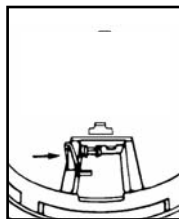
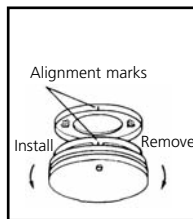

**FIGURE 5**
**FIGURE 6**
3. After selecting the proper smoke alarm location as described in section 1, attach the mounting plate to the ceiling as shown in figure 5. For wall mounting see figure 6. Place mounting plate on the wall as described in the mounting illustrations. Use the screws and anchors provided to secure the mounting plate (use 3/16" drill bit for anchor holes).